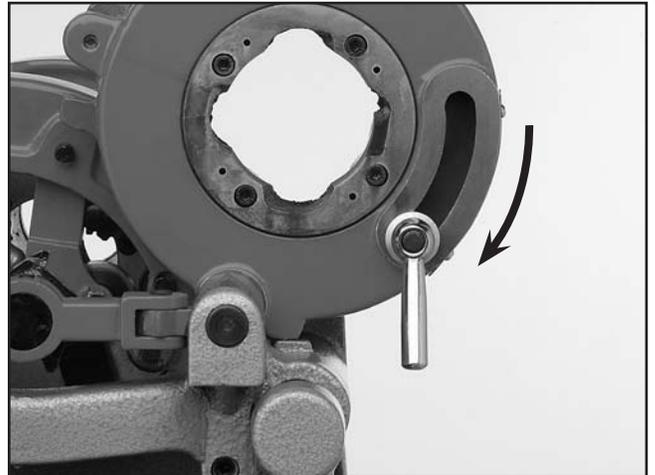

Figure 5. Lock handle positioned to allow dies to be inserted into the threading tool.
2. Loosen the lock handle and move it all the way down in the adjustment slot, as shown in **Figure 5**. This will allow the dies to be moved in/out of the threading tool.